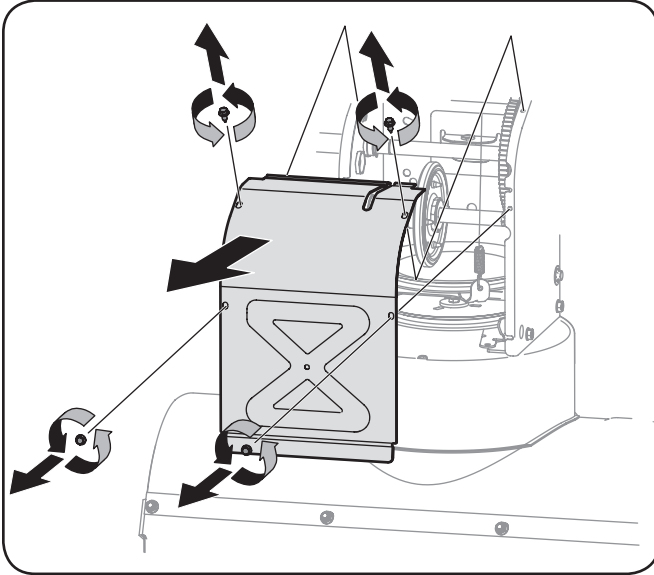

Figure 6-4
3. Remove the frame cover from the underside of the snow thrower by removing the self-tapping screws which secure it. Refer to Figure 6-4.